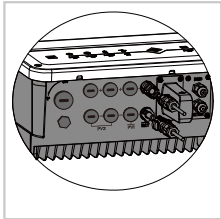

Figure 4.1-1
- **Battery Connection:** Confirm the connection between BT and battery : polarities (+/-) not reversed, refer to Figure 4.1-1